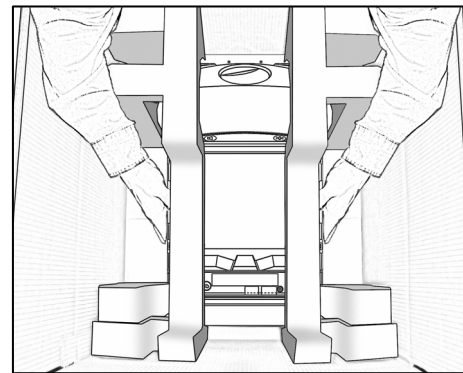

Figure 13
5. Lift the MS2320 scanner out of the box by carefully grasping both sides near the center of the unit and lifting directly up. Refer to Figure 13 for hand placement.